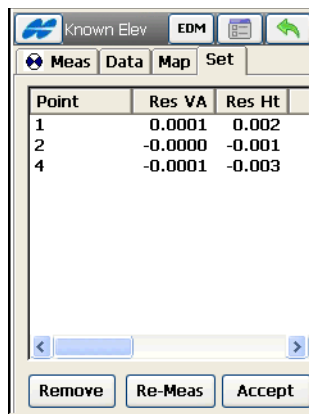

Figure 8-49. Calculate Vertical Coordinates for Unknown Points
7. Open the **Set** tab in the **Known Elev** screen (Figure 8-49 on page 8-49), tap the **Accept** button. The vertical coordinate of unknown points will be calculated.